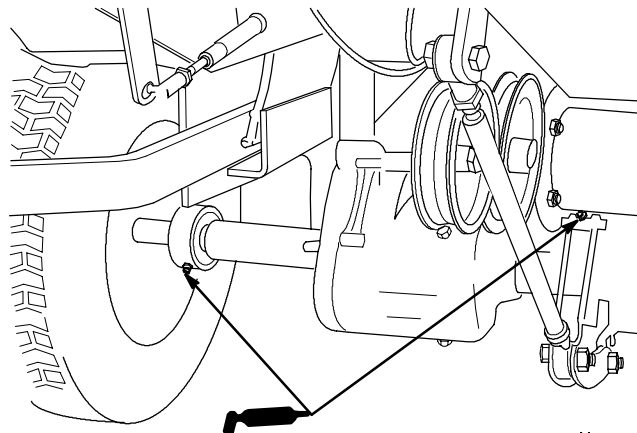

Figure 24
3. Lubricate the axle bearings (Fig. 24).